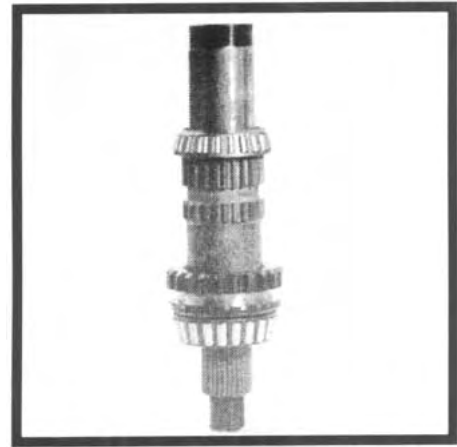

Figure 6.18
7. Heat and install the remaining gear bearing cone assembly against the bearing spacer ring. Slide the larger of the remaining spacer rings against the bearing cone. See Figure 6.18.